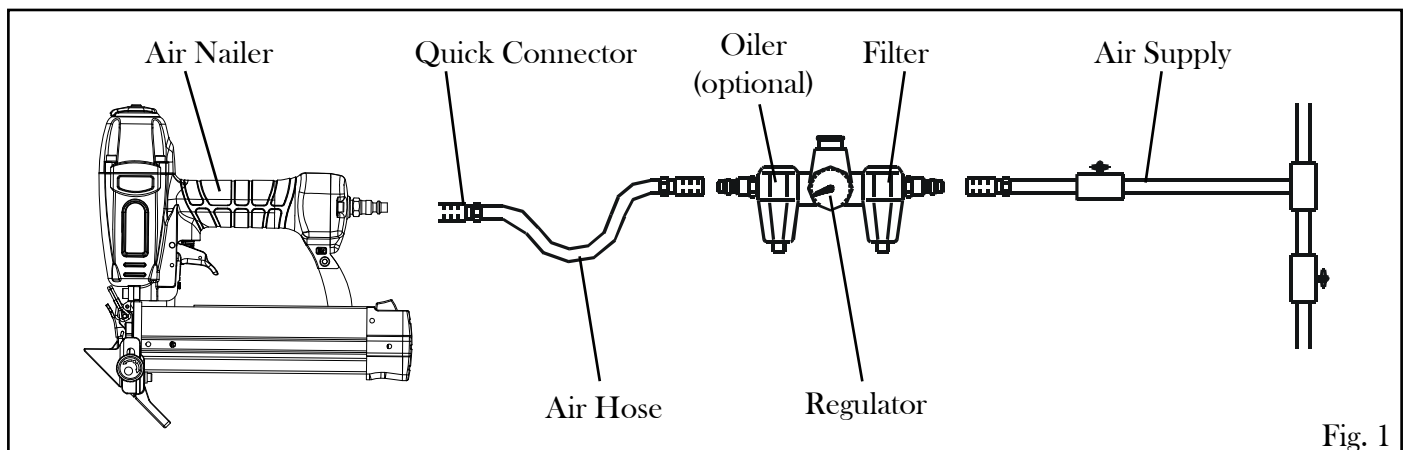

Fig. 1
Your air tool is fully assembled when you receive it. Before using it, attach the air line and desired air system accessories. See Fig. 1 for the recommended accessories and connection order. Be sure the air hose is depressurized when installing or removing adapters to the air line.
2. Turn the compressor on and set the Regulator (Fig. 1 - Regulator) to the proper pressure according to the size and type of fastener being used. The air pressure range should be within 60 PSI to 100 PSI.
3. Connect the tool to the air supply (Fig. 1).